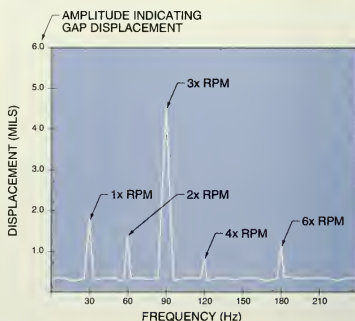

Figure 13-15. Displacement transducers produce an amplitude that represents the total peak-to-peak displacement of a vibrating shaft.
An *oscillator* is a device that generates a radio frequency (RF) field that, when sent to the transducer tip, creates eddy currents. An *eddy current* is an electric current that is generated and dissipated in a conductive material in the presence of an electromagnetic field. As the shaft vibrates relative to the transducer, energy changes modulate the oscillator voltage. An amplifier receives the feedback signal and amplifies the output signal to a meter, analyzer, or monitor. See Figure 13-15.